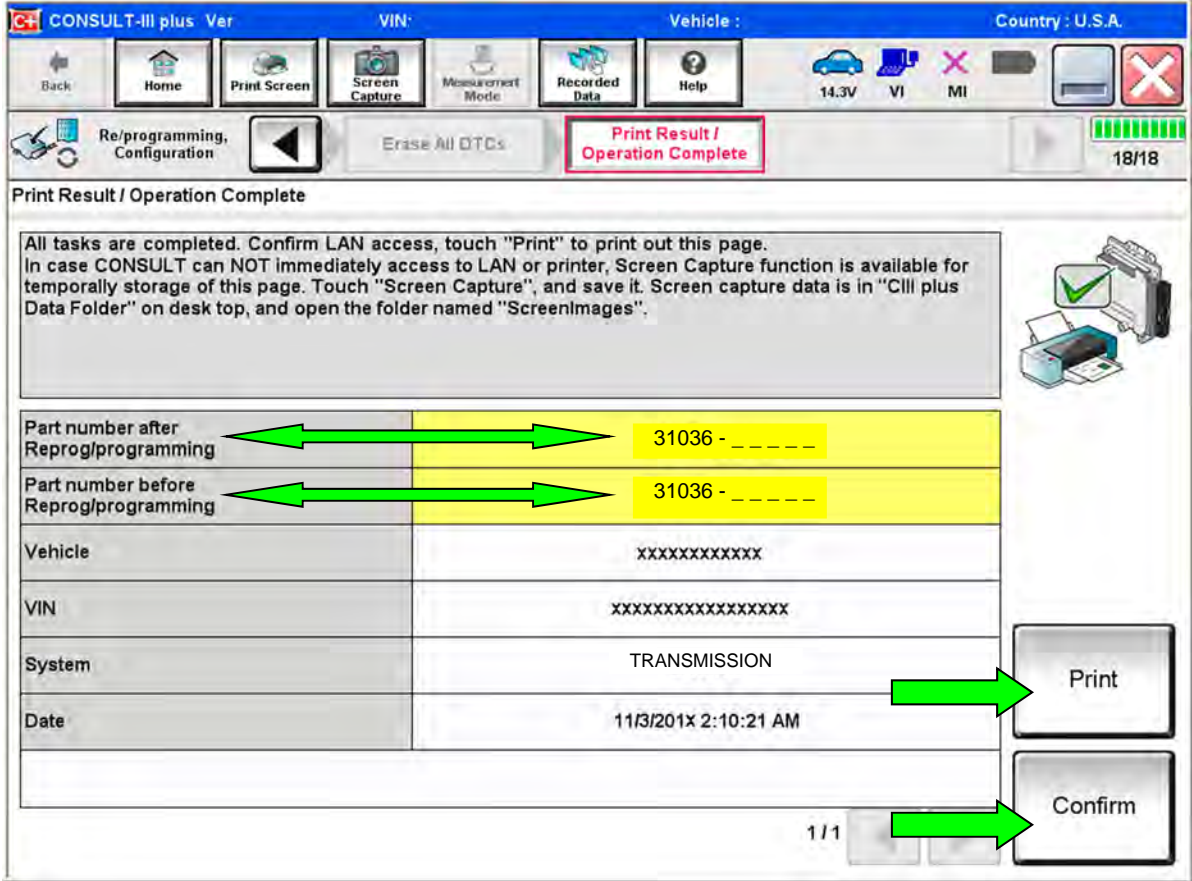

Figure 172
- 148. When the entire reprogramming process is complete, the screen in Figure 172 will display.
- 150. Print a copy of this screen (Figure 172) and attach it to the repair order for warranty documentation.